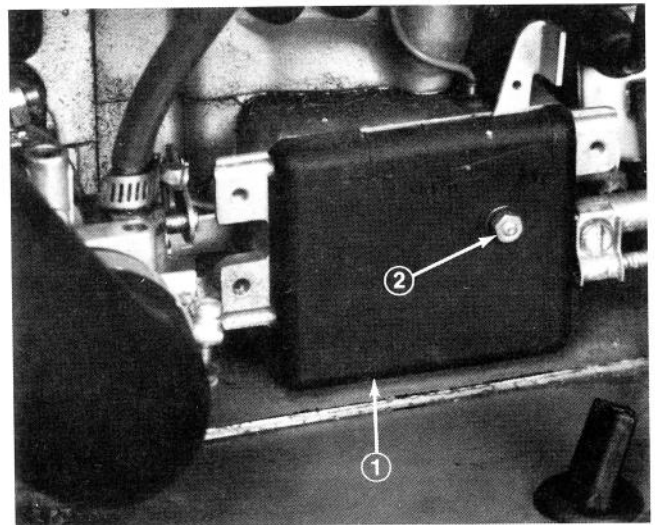

Figure 2
1. Remove nut securing governor box cover to governor box and remove cover (Fig. 2).